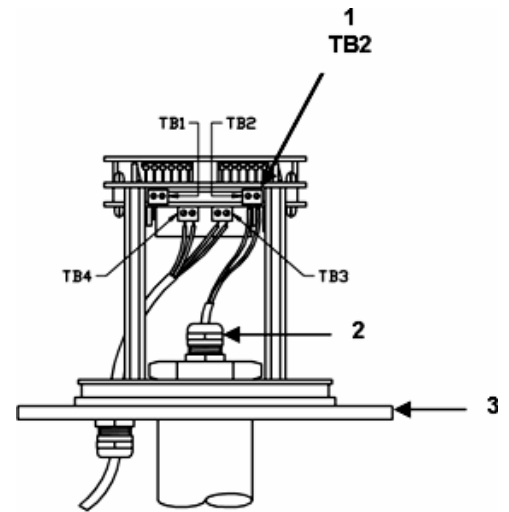

Figure 23
Step 2) Remove the register canopy and disconnect the wires from terminal TB2 (1). (Figure 23)